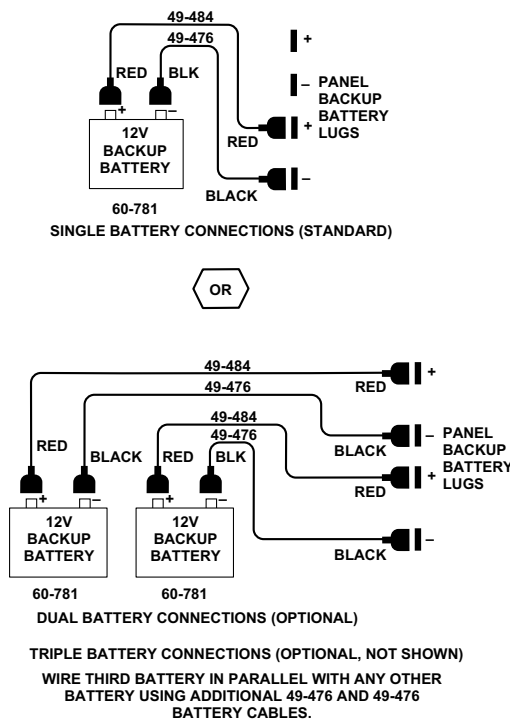

Figure 24. Connecting Backup Battery(s)
4. Connect the black battery wire(s) from the panel circuit board negative (-) battery spade lug(s) (located on the left side of the board) to the negative (-) battery terminal (Figure 24).